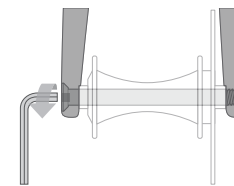
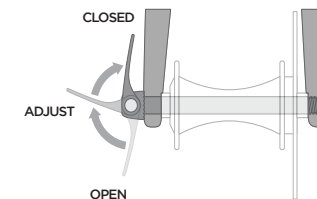

fig. 12a
fig. 12b
a. Adjusting the thru-axle mechanism (fig. 12a & 12b)
The thru-axle is inserted through the unthreaded hole in the frame or fork's dropout, through the wheel hub, and is threaded directly into the opposing dropout by tightening the thru-axle. Common installation methods may use an Allen hex key (fig. 12a) or a cam lever (fig. 12b). Please refer to the manufacturer's instructions for specific information about your thru-axle's operation, including correct torque specifications or lever adjustment information.
- (4) If your bike has a thru-axle front wheel mounting system (**figs. 12a & 12b**), loosen and remove the thru-axle according to the manufacturer's instructions, then remove the front wheel.
- (c) With a thru-axle system, tighten the thru-axle (**figs. 12a & 12b**) according to the manufacturer's instructions.
- (2) If your bike has rim brakes, disengage the brake's quick-release mechanism to increase the clearance between the wheel rim and the brake pads (refer to **Page 39, Section 4: "Tech", subsection C: "Brakes"**, **gs. 14 through 18**).
- (3) On a derailleur gear system, pull the derailleur body back with your right hand.
- (4) If your bike has a cam-action front wheel retention, move the cam lever from the locked or CLOSED position to the OPEN position (**gs. 9a & 9b**). If your bike has through-bolt or bolt-on front wheel retention, loosen the fastener(s) a few turns counter-clockwise using an appropriate wrench, lock key or the integral lever.
- (5) If your bike has a thru-axle rear wheel mounting system (figs. 12a & 12b), loosen and remove the thru-axle according to the manufacturer's instructions.
- (6) Push the rear wheel forward far enough to be able to remove the chain from the rear sprocket, then lift the rear wheel off the ground a few inches and remove it from the rear dropouts.
- (c) With a thru-axle system, tighten the thru-axle (figs. 12a & 12b) according to the manufacturer's instructions.